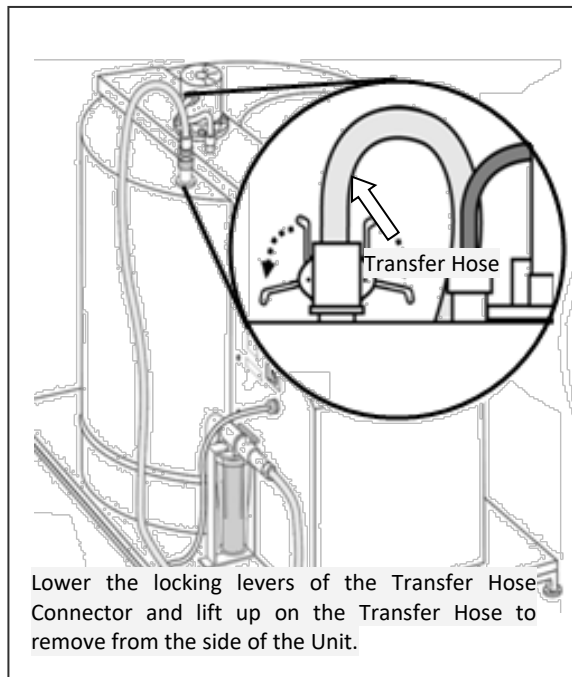
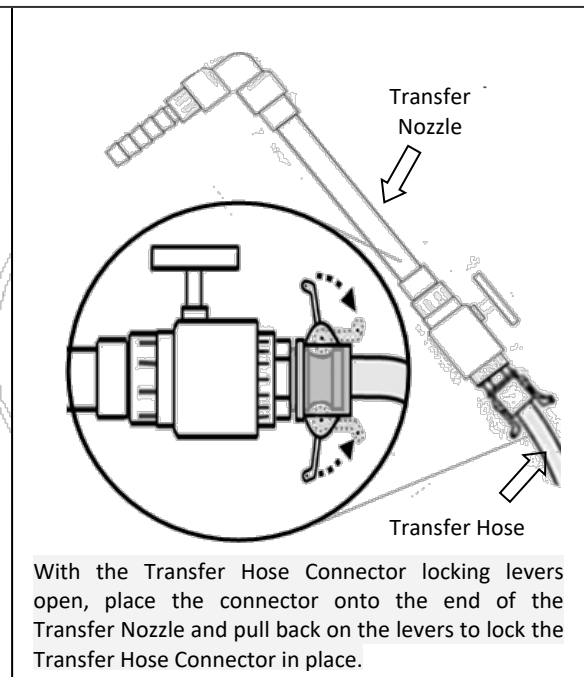

Figure 9
Figure 10
2. Remove Transfer Hose from the top of the tank (Figure 9) and connect the Transfer Hose to the Transfer Nozzle (Figure 10).